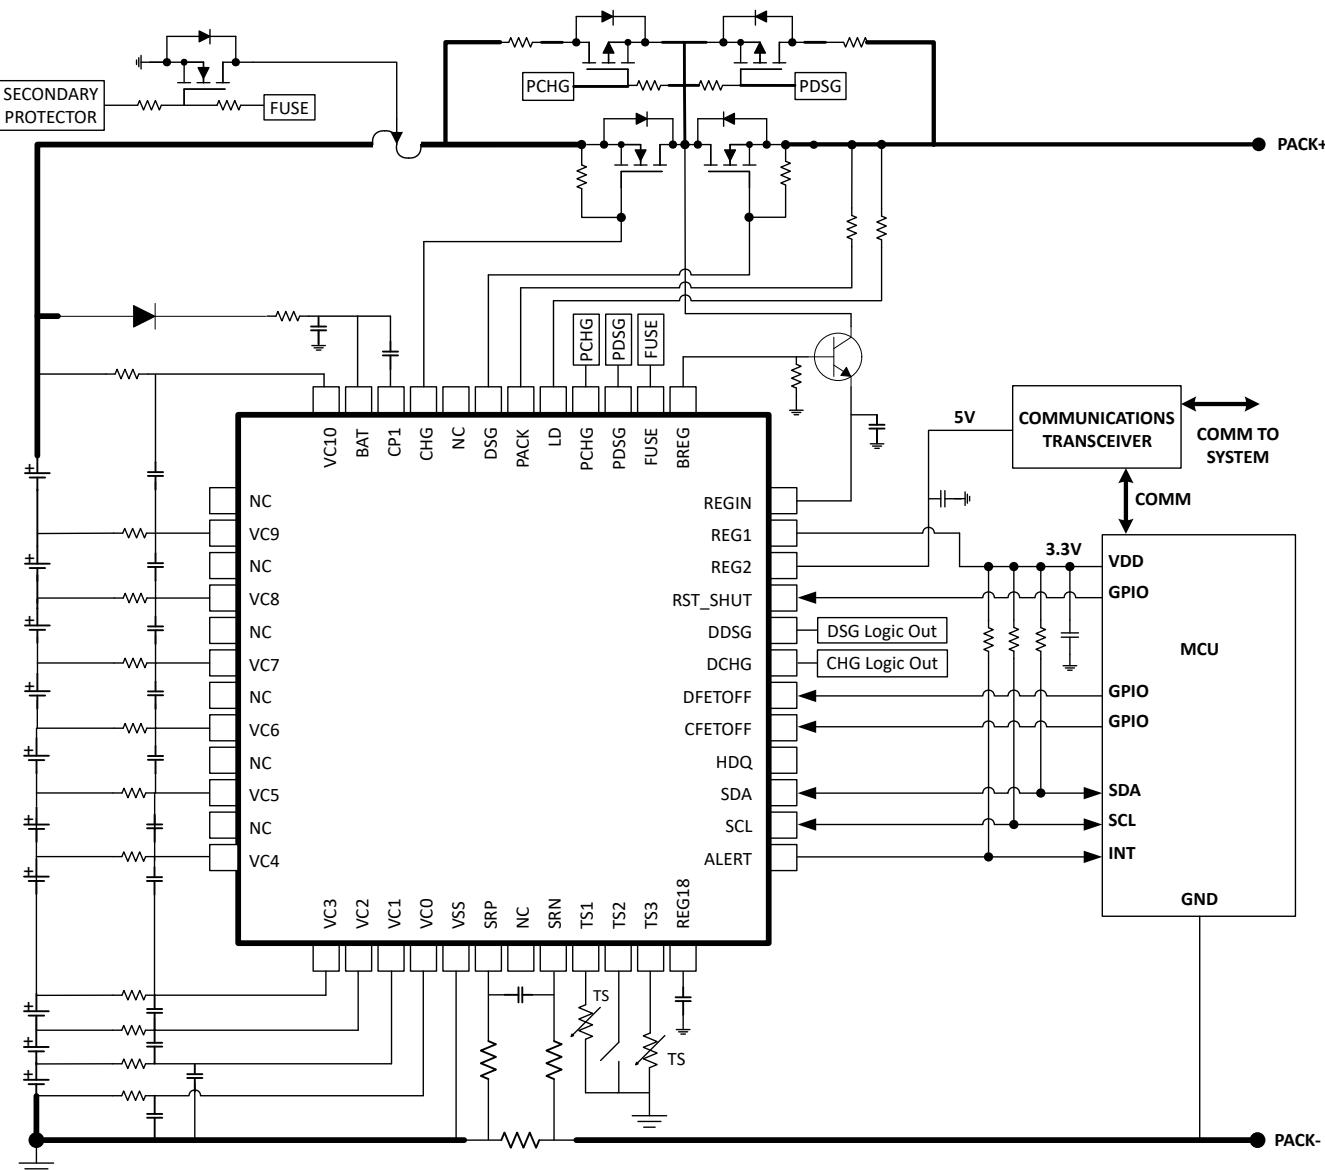

Figure 16-1. BQ76942 10-Series Cell Typical Implementation (Simplified Schematic)
Figure 16-1 shows a simplified application schematic for a 10-series battery pack, using the BQ76942 together with an external secondary protector, a host microcontroller, and a communications transceiver. This configuration uses CHG and DSG FETs in series, together with high-side PFET devices used to implement precharge and predischarge functionality. See the following implementation considerations:
- Power dissipation, which can be a factor of the RDS(ON) rating of the FET, the FET package, and the PCB design.
- The overdrive level of the BQ76942 device charge pump should be selected based on RDS(ON) requirements for the protection FETs and their voltage handling requirements. If the FETs are selected with a maximum gate-to-source voltage of 15 V, then the 11-V overdrive mode within the BQ76942 device can be used. If the FETs are not specified to withstand this level, or there is a concern over gate leakage current on the FETs, the lower overdrive level of 5.5 V can be selected.
- A diode can optionally be included in the collector circuit of the BJT, in order to avoid reverse current flow from BREG through the base-collector junction of the BJT to PACK+ during a pack short circuit event. This diode can be seen in Figure 16-1 at D2.